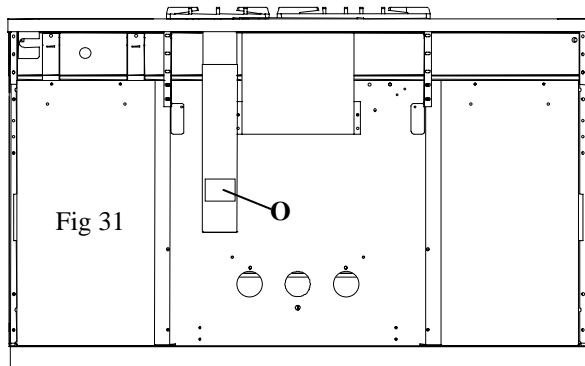

Fig 31
- Remove access door **O** (Figure.31, gas oven range) or **P** (Figures 32 and 33, gas and electric range).